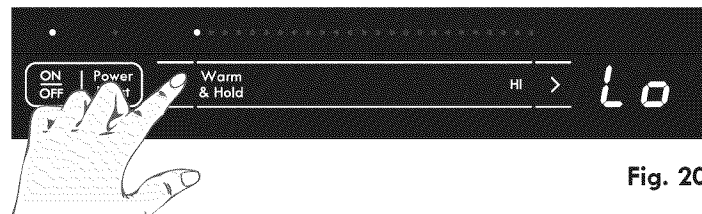
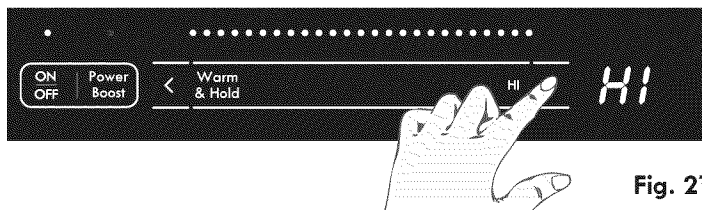

Fig. 20
Fig. 21
Touch < or/and > slew pads for precise power value setting. At startup, pressing < will set the control at Low (Fig. 20) and pressing > will set it at Hi (Fig. 21).
4. Set the desired power level for the Cooking Zone by using one of the three methods explained earlier. If the > key pad (Fig. 21) is touched the Cooking Zone will start at HI power level (the Cooking Zone Alpha-Numeric display will indicate HI).
If the  key pad (Fig. 20) is touched once the Cooking Zone will start at the low power level (the Cooking Zone Alpha-Numeric display will show “Lo” and the control will beep once). **PLEASE NOTE:** If the cookware requirements for the Cooking Zone (See pages 6 & 7) are not met the sensors will detect a problem and the display will flash with the power level in the affected Cooking Zone Alpha-Numeric display. Any problems must be corrected before proceeding.